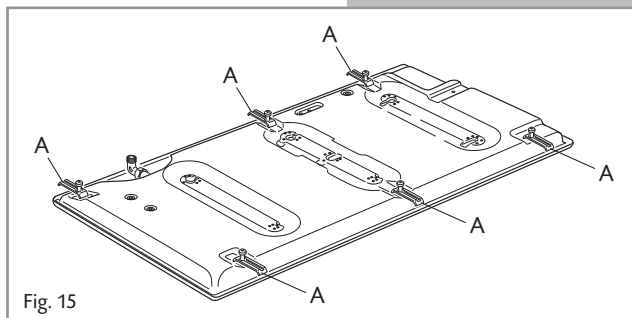

Fig. 15
Fastening the Installation Brackets (fig. 15)
- Make sure that the brackets are fastened as shown in figure 15.